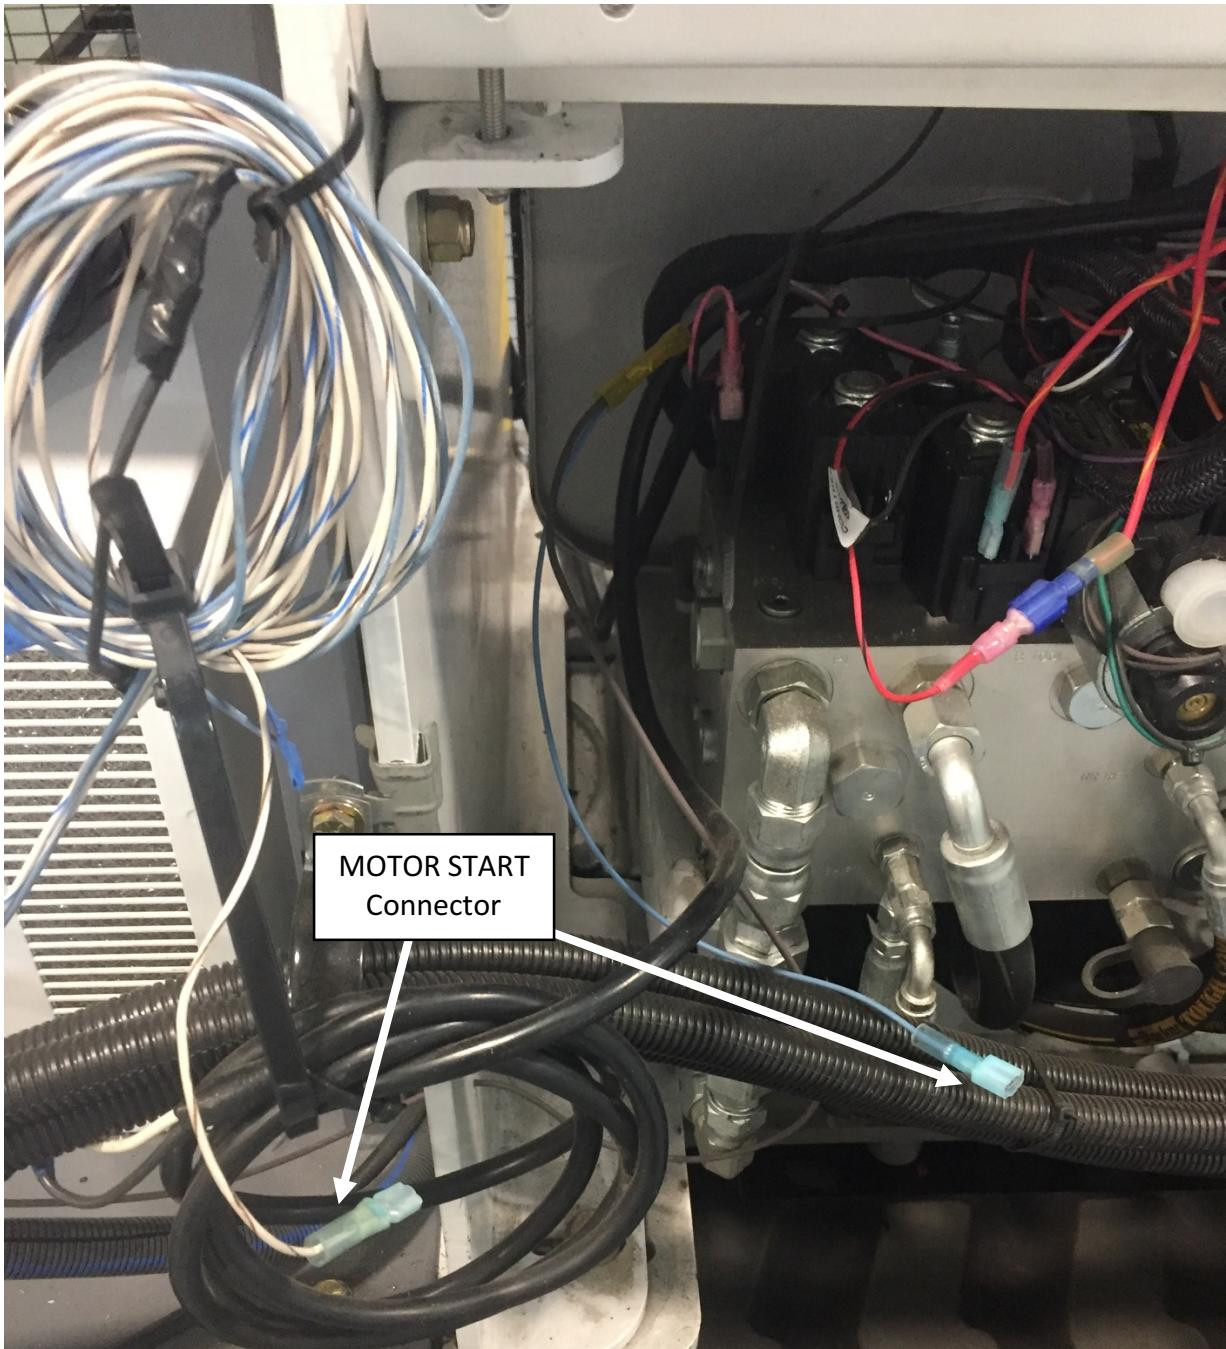

Figure 2: MOTOR ACTIVATE wire.
- Blue & white MOTOR ACTIVATE wire is disconnected (Fig. 2)
- 1) Verify that the yellow E-STOP on the battery pack is depressed, and the blue & white MOTOR ACTIVATE wire (Fig. 2) is disconnected.